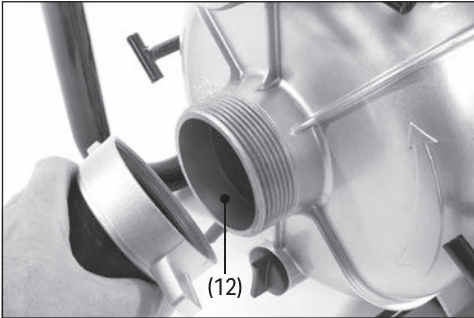

Fig. 2
2. Place an O-ring seal (G) inside the hose bar coupling so that it rests against the hose barb.
3. Screw the hose barb assembly onto the suction inlet (12) (Fig. 2).